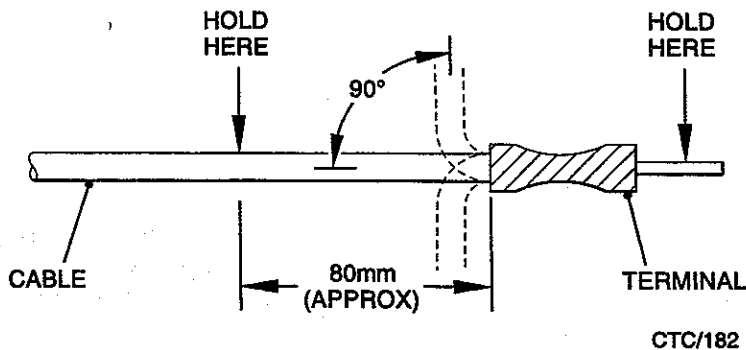

Fig 5 Insulation support test
- 7.4 Remove the termination from the tool and check for correct crimping of the insulation support by holding the termination and bending the cable back and forth through 90 degrees and 180 degrees once only (see Fig 5). The termination should retain its grip on the cable insulation.